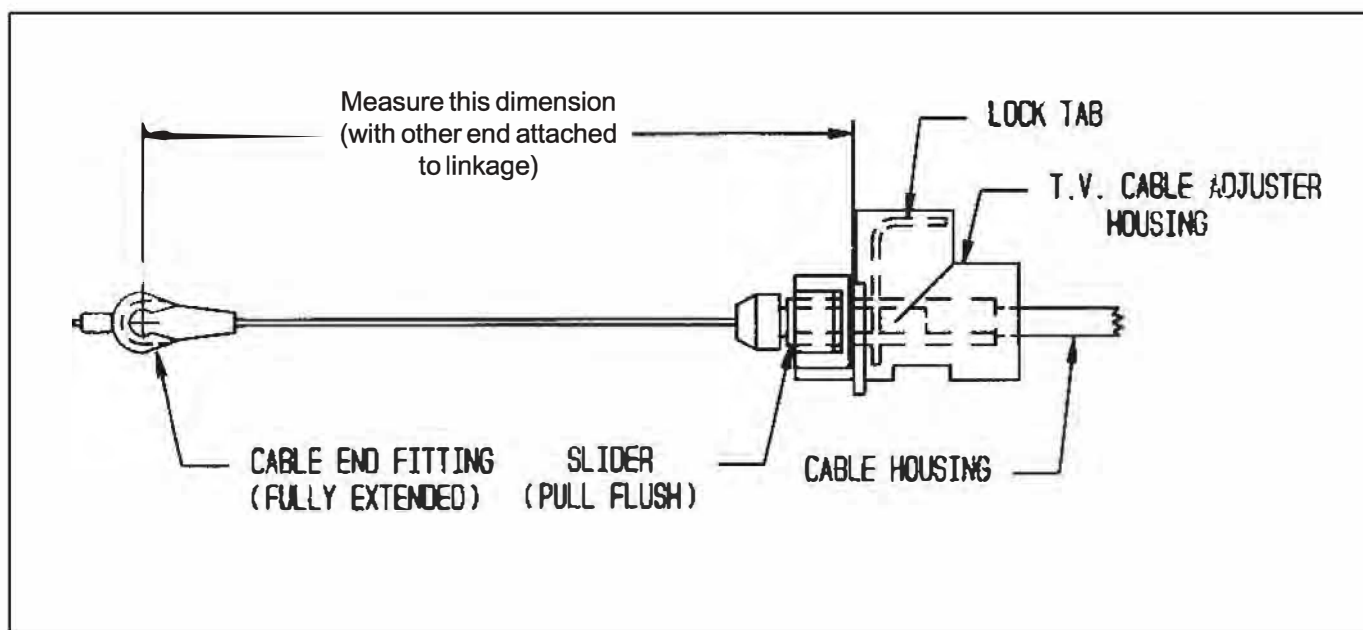

Figure 15
**STEP 1.** Measure your T.V. cable to establish it's particular mounting dimension (there are several lengths in use.) as follows (**See Fig. 15**). Retract